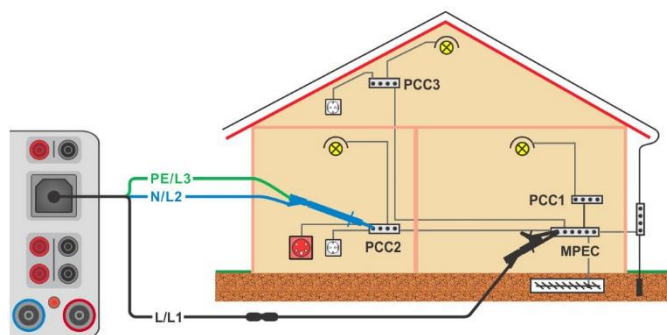

Figure 6.112: Connection of 3-wire test lead plus optional Extension lead
- ▶ Connect test leads, see **Figure 6.112**.